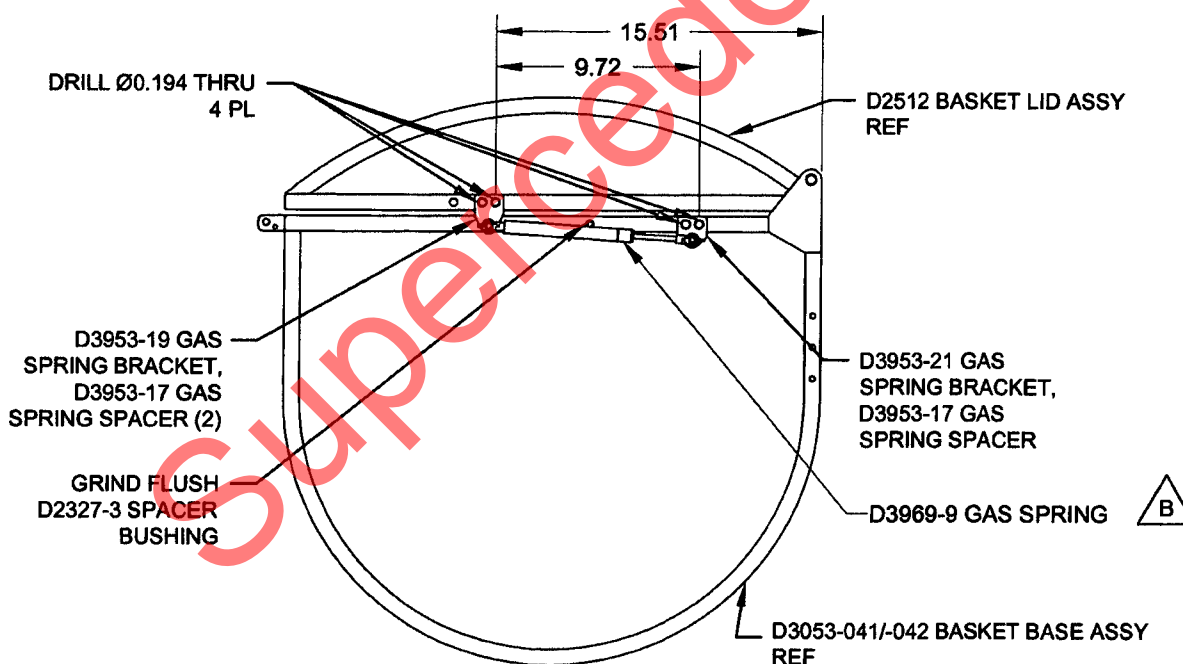
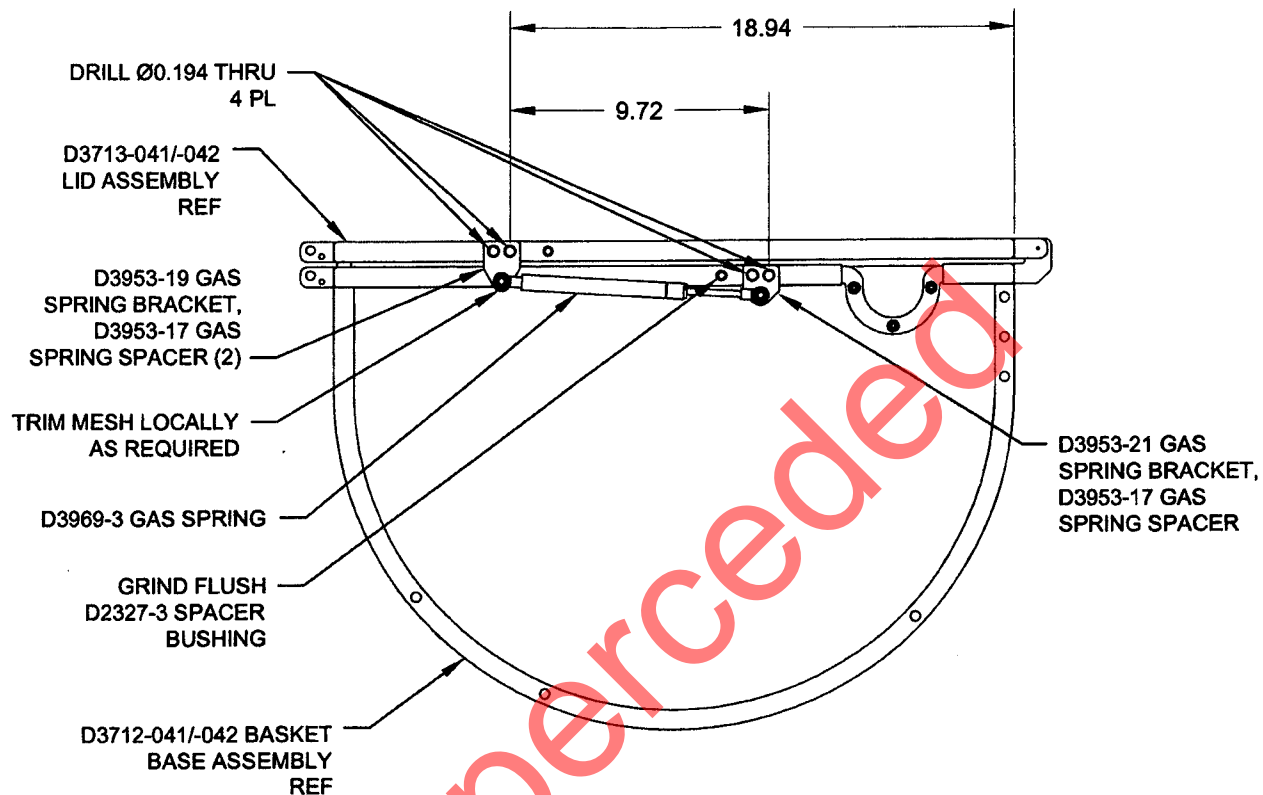

FIGURE 1: D205-541-051 AUTOMATIC LID OPENER INSTALLATION
FIGURE 2: D205-541-053 AUTOMATIC LID OPENER INSTALLATION
- 3.3 Locate the QTY 2 D3953-17 Gas Spring Spacer on the basket lid per Figure 1 (-043/-044) or Figure 2 (-045/-046). Trim steel mesh locally as required. Transfer mark and drill 2X Ø0.194 holes thru basket lid. Touch up paint per ICA-D205-541, Section 5.1.5. (Later model D2512 Basket Lids may be pre-drilled for gas spring brackets)
- 3.5 Locate the D3953-17 Gas Spring Spacer on the basket base as shown in Figure 1 (-043/-044) or Figure 2 (-045/-046). Trim steel mesh locally as required. Transfer mark and drill 2X Ø0.194 holes thru the basket base. Touch up paint per ICA-D205-541, Section 5.1.5.